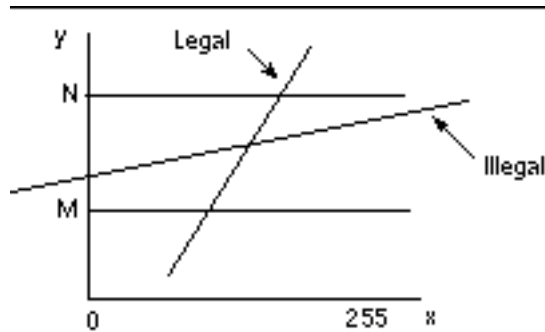

Figure 6-1 Creator Depth-cueing
- The parameters for `xil_rescale` must be chosen such that y values of the line represented must span the range of values between *N* and *M* while the x values are within 0 and 255. See Figure 6-1.